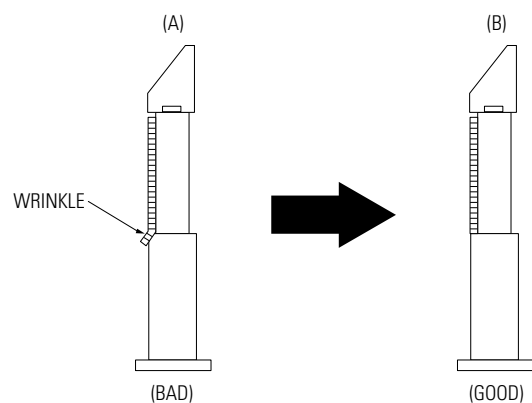

Fig. 3-5-3 Tape Guide Check
- 2) Confirm that there is no curl or wrinkle at the lower flange of tape guide as shown in Fig. 3-5-3 (B).
- 3) If a curl or wrinkle of the tape occurs, slightly turn the screw (A) tilt adjust on the ACE head ass'y.